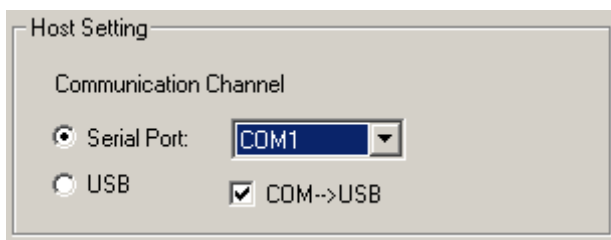

Figure 2-3 Switch UART to USB
5. Select **COM > USB** (Figure 2-3).